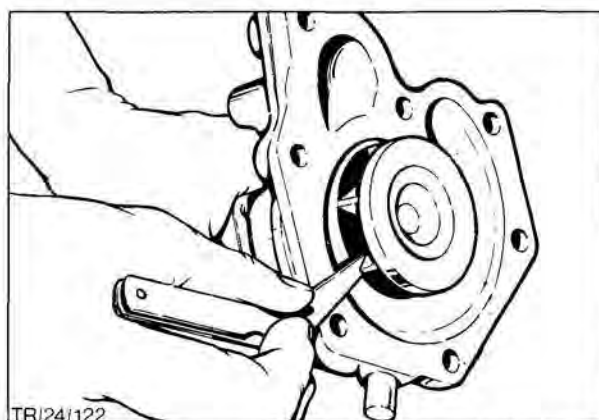

Fig. 17. Ensure a clearance of 0,76 mm (0,030 in) at point indicated
11. Press impeller onto shaft until a clearance of 0,76 mm (0,030 in) is obtained between impeller blades and housing. Fig. 17. Front of shaft should be suitably supported.